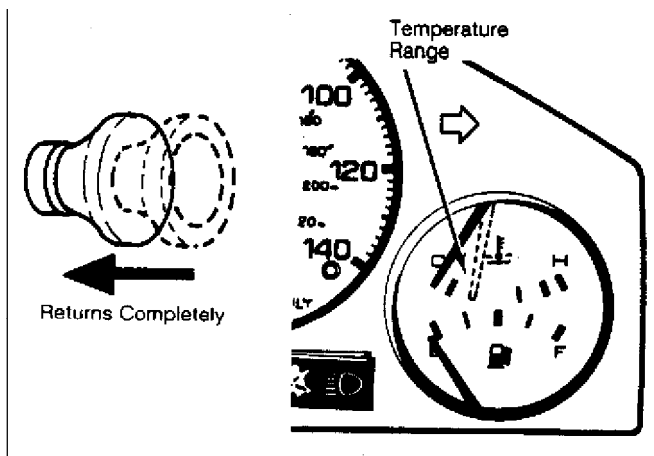

Fig. 5: Checking Automatic Choke Release
2) Start engine and set engine speed at 2000 RPM with choke knob. As engine temperature reaches range, choke knob should return automatically and freely. See Fig. 5.